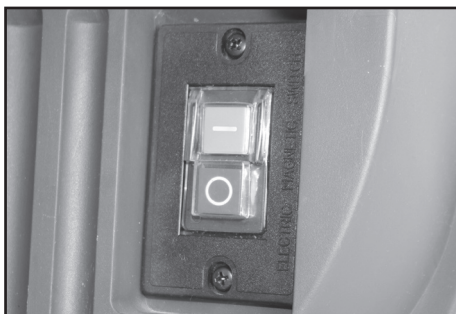

FIG.3
8.4 NO-VOLT ON/OFF SWITCH - FIG. 3